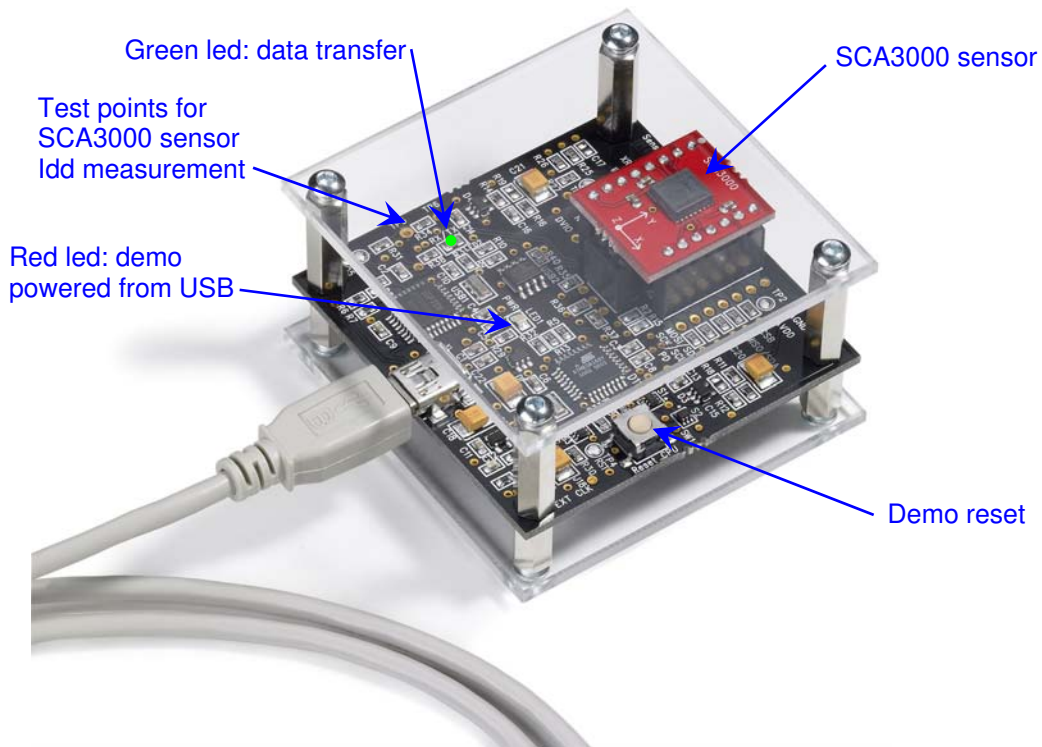
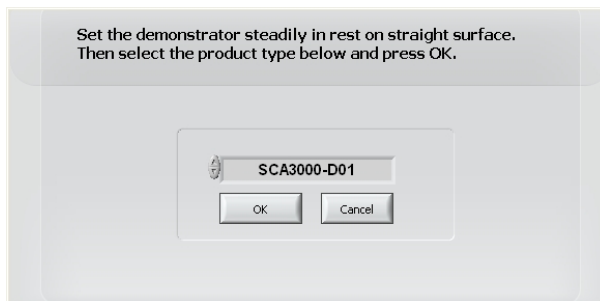
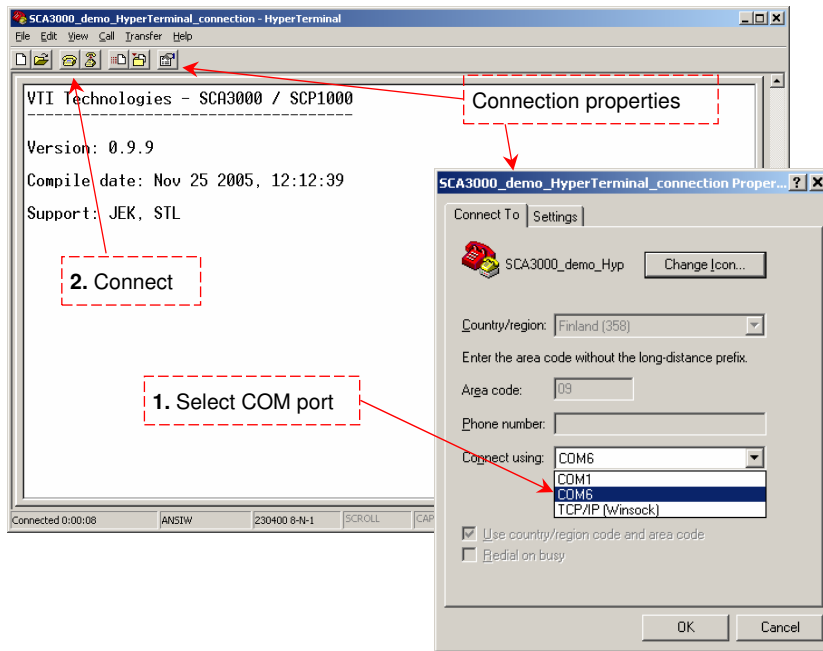

Figure 1. SCA3000 demo USB interface board and SCA3000 PWB.
Figure 4. Product selection pop-up window.
Figure 14. Windows HyperTerminal with SCA3000 demo info text.
- SCA3000 sensor soldered on chip carrier PWB (see Figure 1 on next page)
- USB interface card (see Figure 1 on next page)
The SCA3000 DEMO KIT USB interface board (black PWB) and SCA3000 PWB (red PWB) are shown in Figure 1. The USB interface card converts the USB interface to SPI or I²C interface. SCA3000 sensor is soldered on PWB which is connected to interface board.
User needs to select the correct product type from **PRODUCT SELECTION** pop-up window (Figure 4). SCA3000-D01 is selected by default, product type can be found from top SCA3000 component, see Figure 1. Product selection affects on the used serial communication (SPI/I²C) as well as the sensor output scaling to acceleration.
μ C can be resetted by exiting from the GUI and then pressing the reset button (Figure 1) on USB interface board.
5. Press demo reset button (see Figure 1). SCA3000 DEMO KIT sends an info text to HyperTerminal (see Figure 14). If the HyperTerminal software is unable to connect the SCA3000 DEMO KIT or the info text does not appear,
until info text appears to HyperTerminal screen (see Figure 14).